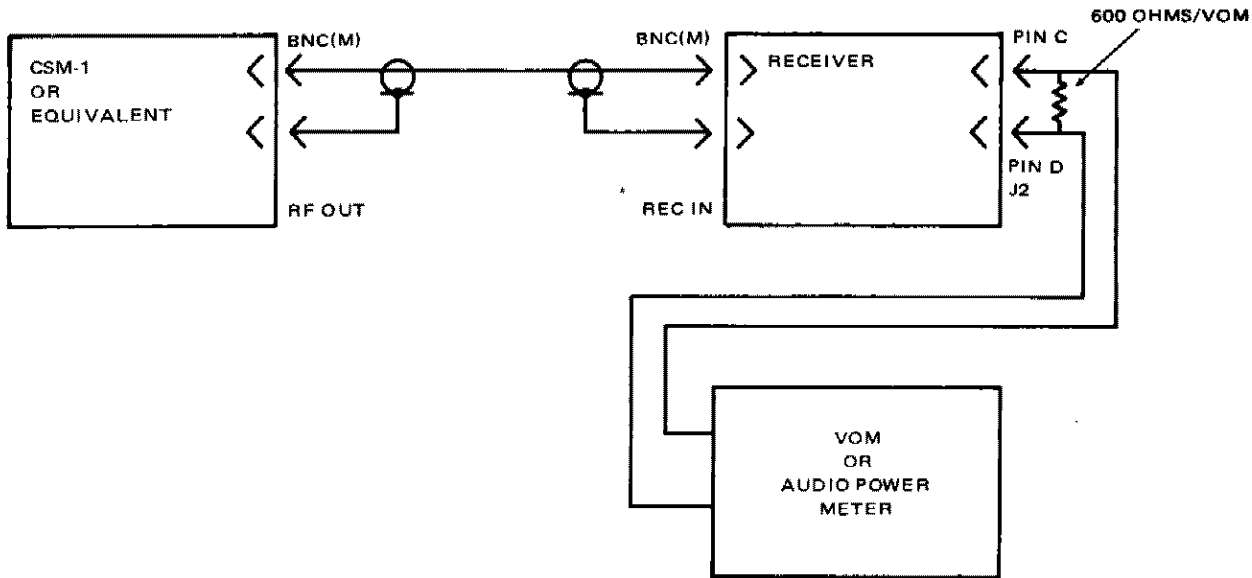

Figure 6-5. Test Setup for Sensitivity
6.7 SENSITIVITY.- The purpose of this procedure is to ensure that the receiver will respond to an incoming signal level of 3.0 microvolts (vhf and uhf), 30% modulated at 1 kHz, as applied to the antenna input, for a 90 mW output into a 600-ohm load with a 10 dB (minimum) signal-plus-noise-to-noise ratio. Figure 6-5 shows the test setup.
- \* (1) Connect the output of the CSM-1 to the input jack of receiver as shown in figure 6-5.
- (2) Turn on receiver; allow 5 minutes for proper warmup.
- (3) Set receiver controls as follows:
- (4) Connect test equipment as shown in figure 6-5.
- \* (5) Set CSM-1 frequency switches to channel frequency.
- (6) Set FUNCTION switch to GENERATE position.
- (7) Set AMPLITUDE MODULATION switch to ON position and set SWEEP WIDTH ( $\Delta f$ ) to OFF.
- (8) Set VERT MODE switch to VERT SET position, and set TONE FREQUENCY to 1 kHz.
- (9) Adjust VERT POS, FOCUS, INTENSITY, HORIZ POS, and HORIZ GAIN controls to position trace on VERTICAL SET line of graticule.
- (10) Set VERT MODE switch to CARR SET.
- (11) Adjust CARRIER LEVEL control to position trace on CARRIER SET line of graticule.
- \* (12) Set VERT MODE switch to GEN 30% AM.
- \* (13) This step deleted.
- (14) This step deleted.